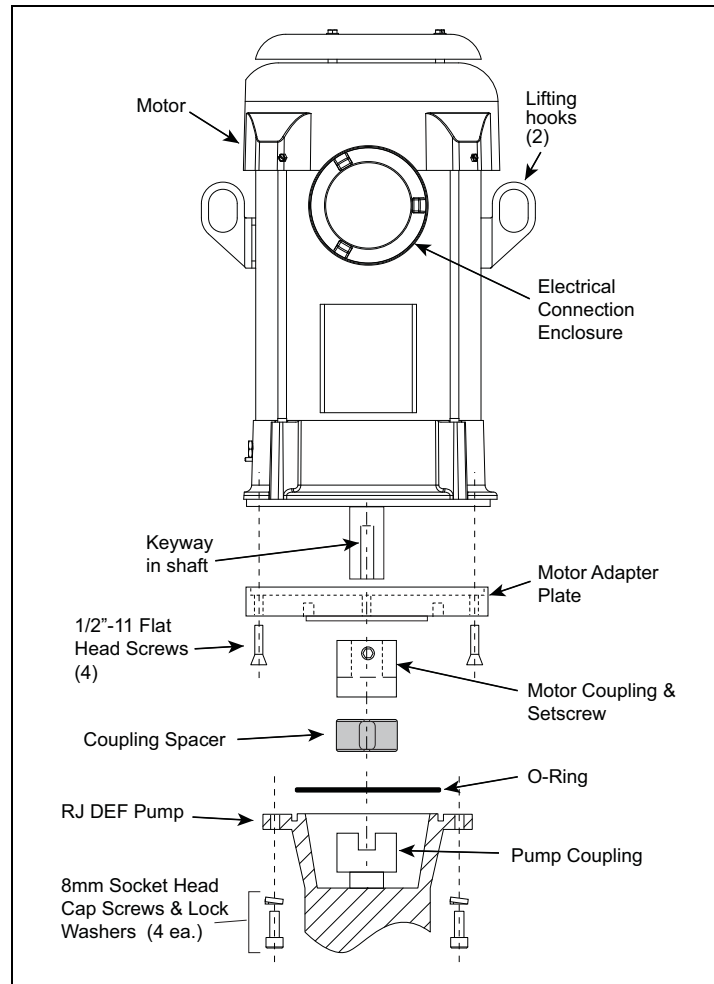

Figure 13. View To Install Motor Accessories
2. Insert the Mounting Adapter onto the shaft end of the RJ DEF Motor and align the mounting holes. Secure in place using the 1/2"-11 Flat Head Cap Screws (FHCS) to 35 ft-lb (47.5 N•m) as shown in Figure 13.
4. Insert Spacer into the end of the RJ DEF Motor Coupling as shown in Figure 13.
5. Insert the Motor Flange O-Ring into the groove located on the RJ DEF Pump Motor Mounting Flange as shown in Figure 13.
7. The RJ DEF Motor may be orientated in one of four positions using the bolt-hole pattern to best orientate the RJ DEF Motor electrical enclosure relative to the sump's electrical input. Secure the RJ DEF Motor using the four 8mm Socket Head Cap Screws (SHCS) from the motor accessory box as shown in Figure 13. Tighten the Cap Screws to 10 ft-lb (13.6 N•m).